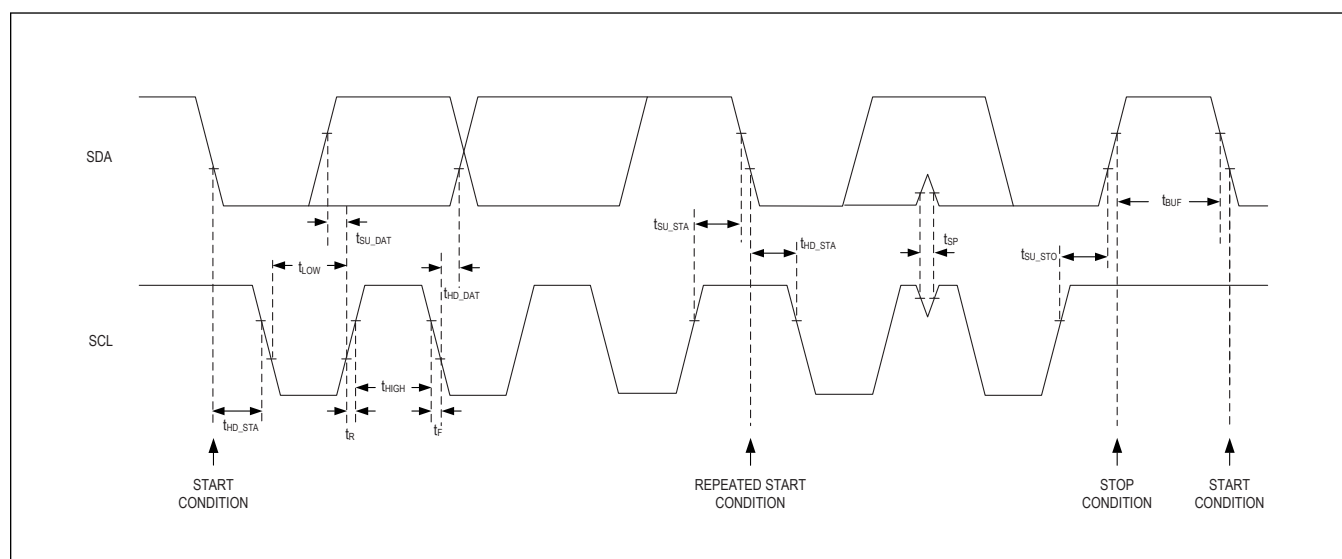

Figure 3. Detailed I²C Timing Diagram
The MAX31889 features an I²C/SMBus™ compatible, 2-wire serial interface consisting of a serial data line (SDA) and a serial clock line (SCL). SDA and SCL facilitate communication between the MAX31889 and the master at clock rates up to 400kHz. Figure 3 shows the 2-wire interface timing diagram. The master generates SCL and initiates data transfer on the bus. The master device writes data to the MAX31889 by transmitting the proper slave address followed by the register address and then the data word. Each transmit sequence is framed by a START (S) or REPEATED START (Sr) condition and a STOP (P) condition. Each word transmitted to the MAX31889 is 8 bits long and is followed by an acknowledge clock pulse. A master reading data from the MAX31889 transmits the proper slave address followed by a series of nine SCL pulses. The MAX31889 transmits data on SDA in sync with the master-generated SCL pulses. The master acknowledges receipt of each byte of data. Each read sequence is framed by a START (S) or REPEATED START (Sr) condition, a Not Acknowledge (NACK), and a STOP (P) condition. SDA operates as both an input and an open-drain output. A pullup resistor is required on SDA. SCL operates only as an input. A pullup resistor is required on SCL if there are multiple masters on the bus, or if the single master has an open-drain SCL output. Series resistors in line with SDA and SCL are optional. Series resistors can protect the digital inputs of the MAX31889 from high-voltage spikes on the bus lines, and minimize crosstalk and undershoot of the bus signals.
The detailed timing diagram of various electrical characteristics is shown in Figure 3.